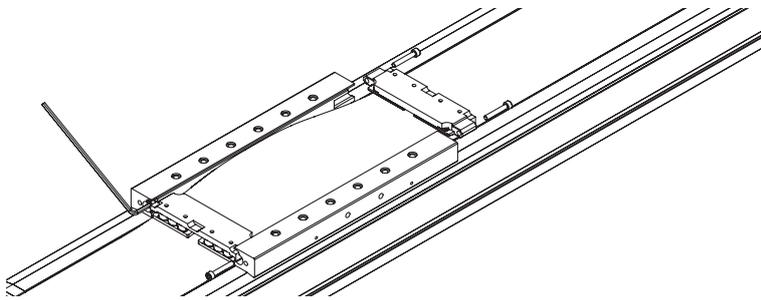

Fig. 7.13 Removing/mounting the cover strip deflection
- ▶ Undo the cover strip deflection mounting screws. Remove the cover strip deflection from both ends of all carriages (see Fig. 7.13).
- ▶ Mount the cover strip deflection on both sides of the carriage as shown in Fig. 7.13.